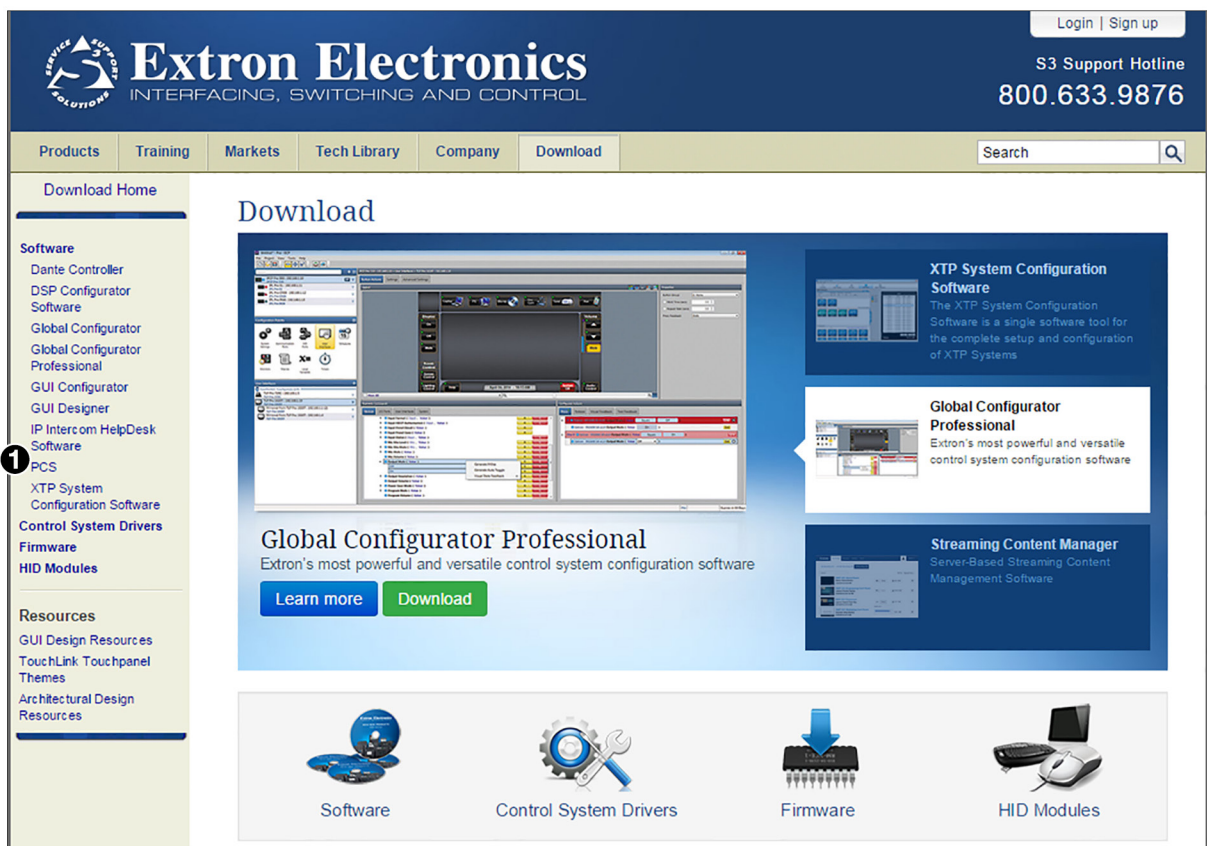

Figure 21. Software Links on the Download Page of the Extron Website
2. On the Download Center screen, click the **PCS** link on the left sidebar menu (see figure 21, ❶).